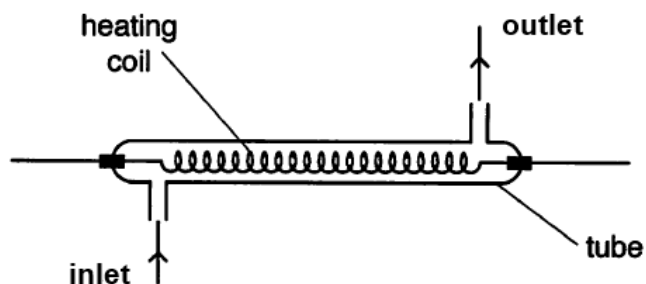

Fig. 6.1
- (c) A student determines the specific heat capacity of a liquid using the apparatus shown in Fig. 6.1 below.